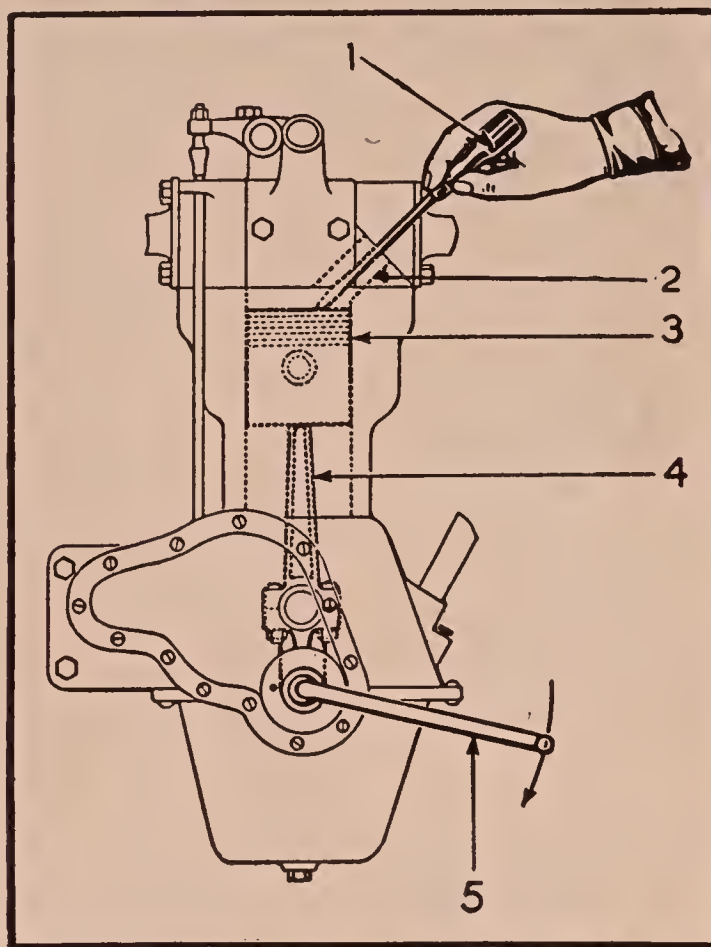

Fig. 9. Locating Upper Dead Center
* The upper dead center can also be found by means of a screwdriver inserted through the spark plug hole in No. 1 cylinder, so as to touch the top of the piston, but this method is not as accurate as the method outlined above. See fig. 9.